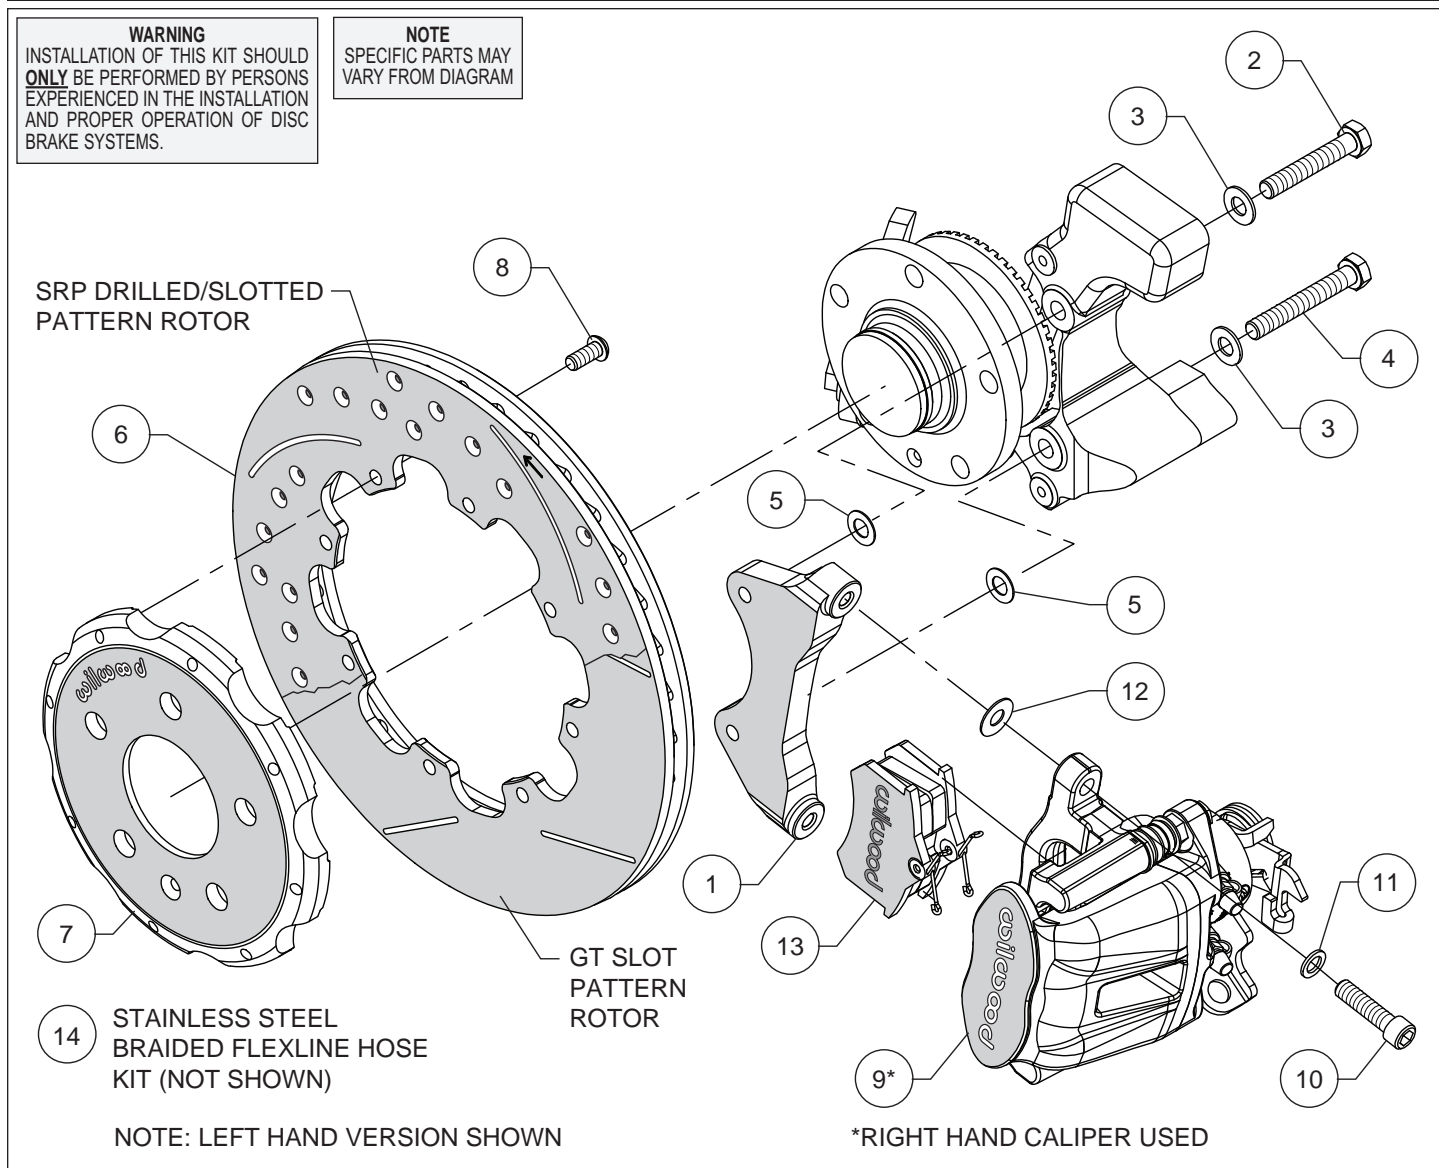

Figure 1. Typical Installation Configuration
- The caliper mount bracket (1) should initially be installed with clean, dry threads on the mounting bolts. Orient the bracket as shown in Figure 1, and Photo 2. Install using mounting bolts (2) and washers (3) on the top hole, and bolts (4) and washers (3) on the bottom hole. Initially place one .030" thick shim (5) on each bolt between the bracket and upright, Figure 1. Temporarily tighten the mounting bolts. **NOTE: The bracket must fit squarely against the mount bosses on the upright.** Inspect for interference from casting irregularities, machining ridges, burrs, etc. Later, after the caliper alignment has been checked, the mount bolts will be secured using red *Loctite*® 271.
- Orient the rotor (6) and the hat (7) as shown in Figure 1 and Photo 3. Attach rotor to hat using bolts (8). Using an alternating sequence, apply red *Loctite*® 271 to the threads, and torque to 25 ft-lb.
- Install the brake pads (13) into the caliper (9) from the bottom with the friction material facing the rotor until the "v" spring clip snaps into place against the anvil, as shown in Figure 1 and Photo 6. They should install easily without interference.
- **NOTE: For this kit, the caliper marked "right hand" MUST be mounted on the left side of the car, and vice versa.** Mount the caliper (9) onto the mounting bracket (1) using bolts (10) and washers (11), as shown in Figure 1 and Photo 7. Initially place one .035" thick shim (12) on each bolt between the caliper and the bracket. Temporarily tighten the mounting bolts and view the rotor (6) from the end of the caliper. The rotor should be centered in the caliper, Photo 8. If not, adjust by adding or subtracting .030" shims (5) between the caliper mounting bracket and the upright to center the caliper on the rotor. Always use the same amount of shims on each of the two mounting bolts. Once the caliper alignment and pad centering are correct, remove the bracket mounting bolts (2 and 4) one at a time, apply red *Loctite*® 271 to bolt threads, and torque to 35 ft-lb. Re-install lower OEM shock bolt.
- Check that the top of the brake pad (13) is flush with the outside diameter of the rotor (6), Photo 9. If not, adjust by adding or subtracting shims (12) between the caliper and the bracket. After the caliper pad height is set, apply red *Loctite*® 271 to bolt threads (10), and torque to 35 ft-lb.